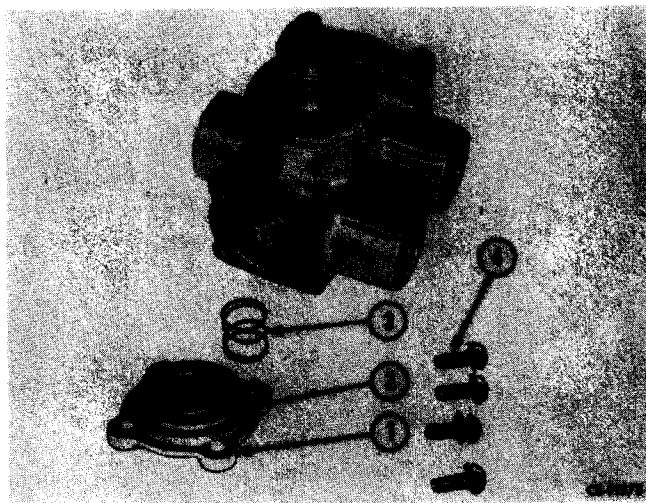

Figure 14-11
Remove screws (4, Fig. 14-11) securing small cover (1). Remove cover and spring (3). Remove "O" ring (2) from cover.
Install "O" ring (2, Fig. 14-11) in groove of cover (1). Hold one end of spring (3) against seal retainer and position cover over other end. Install cover and secure with retaining screws (4). Refer to "SPECIAL TORQUES" in this section.